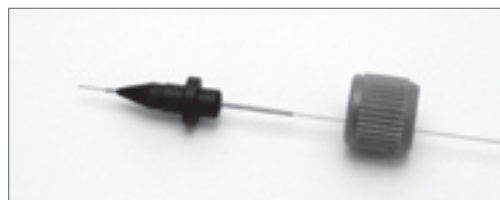

Figure 3: Fitting nut, MicroFerrule, and sleeve threaded by PicoFrit®
- 2) Thread the end of the PicoFrit® tubing through a green MicroTight® sleeve, which is used for assembly with 360 µm OD tubing. Make sure the PicoFrit does not extend past the tubing sleeve end that will be inserted into the MicroTee. Thread the sleeved PicoFrit through the fitting nut and a black MicroFerrule, as shown in Figure 3.